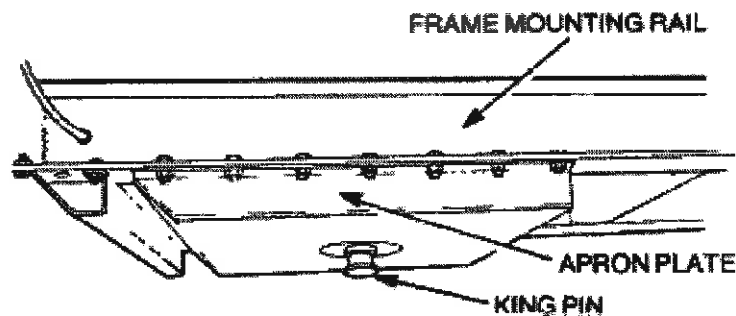

Figure 44 Apron Plate
- a. Support the apron plate (Figure 44) on stands.